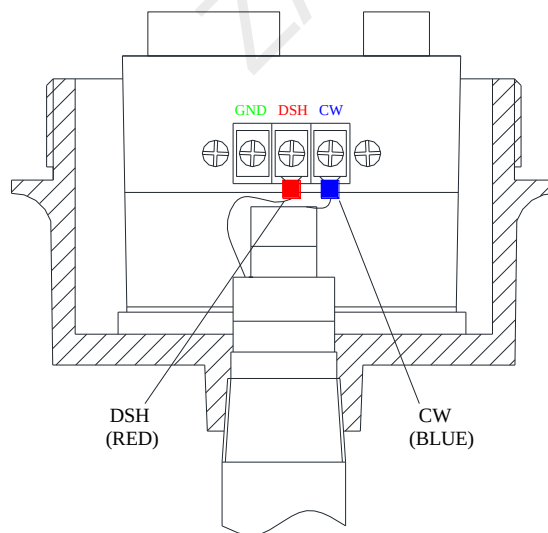

Figure 7.1 Testing electronic unit
- Disconnect the sensing element wires from the instrument by removing the blue wire from the center terminal and the red wire from shield terminal. Leave the power connected. See figure 7.1.
- Starting with the set point adjustment in the extreme counterclockwise (CCW) position, turn the screwdriver clockwise (CW) until the relay just operates.
A. See figure 7.1. Disconnect the sensing element wires from the instrument by removing the blue wire from the center terminal and the red wire from shield terminal.